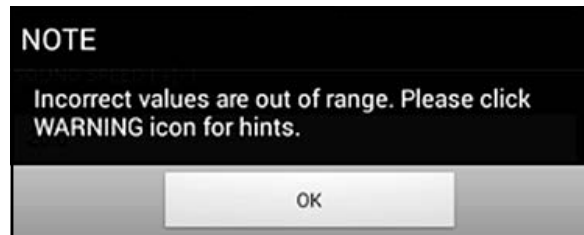

Figure 146: Out of Limits Message
7. There is an acceptable range for each of the parameters entered in this menu. If you enter a value outside of these limits a message similar to *Figure 146* below is displayed.